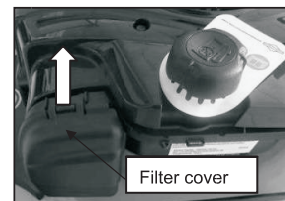

Fig. 17A
1. Lift the tab on top of the filter cover. (Fig. 17A)
2. Remove the filter cover. (Fig. 17A)